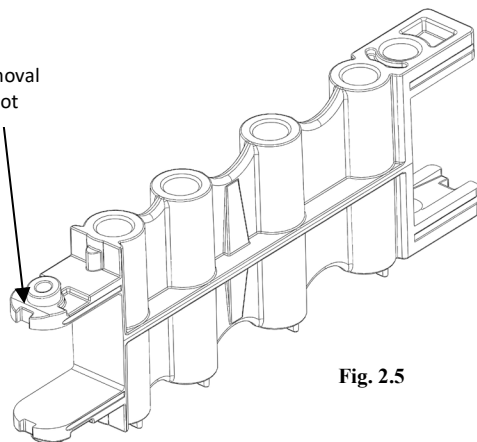

Fig. 2.5
- a. Put the flat edge in the removal slot (Fig 2.5) on the top or bottom prong of the Extender Arm that is to be removed.